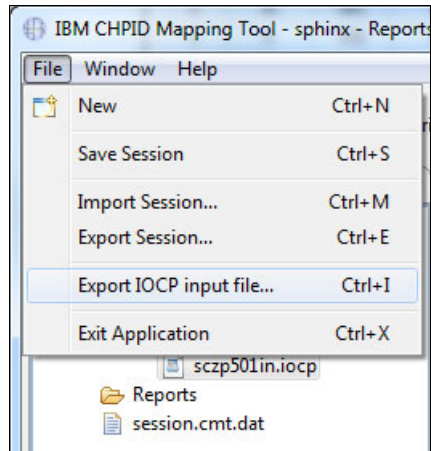

Figure 8-95 CMT - Export IOCP input file
1. Select **File** → **Export IOCP input file** (Figure 8-95 on page 489).